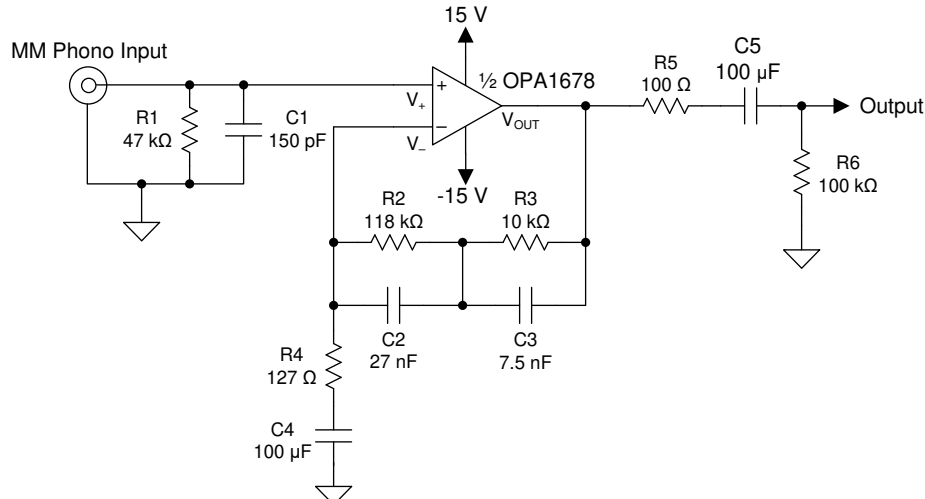

Figure 8-4. Phono Preamplifier for Moving Magnet Cartridges (Single-Channel Shown)
The noise and distortion performance of the OPA167x family of amplifiers is exceptional in applications with high source impedances, which makes these devices a viable choice in preamplifier circuits for moving magnet (MM) phono cartridges. Figure 8-4 shows a preamplifier circuit for MM cartridges with 40 dB of gain at 1 kHz.